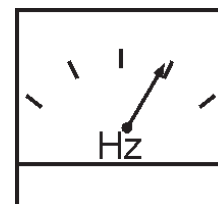

Figure 46. Frequency Meter (Hz)
- The generator's frequency meter (Figure 46) should be displaying the 50 cycle output frequency in **HERTZ**.